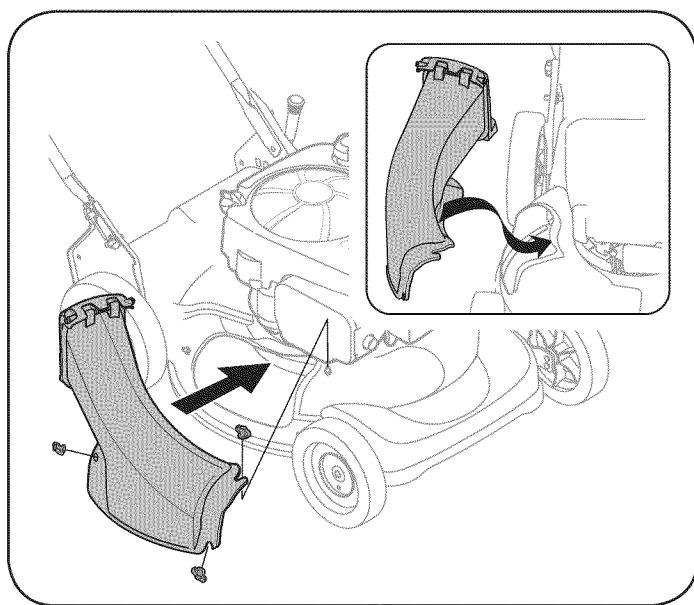

Figure 4
- Replace with grass bag adapter, while making sure the front lip of adapter goes under the edge of the deck. See Figure 4. Secure with wing nuts previously removed.